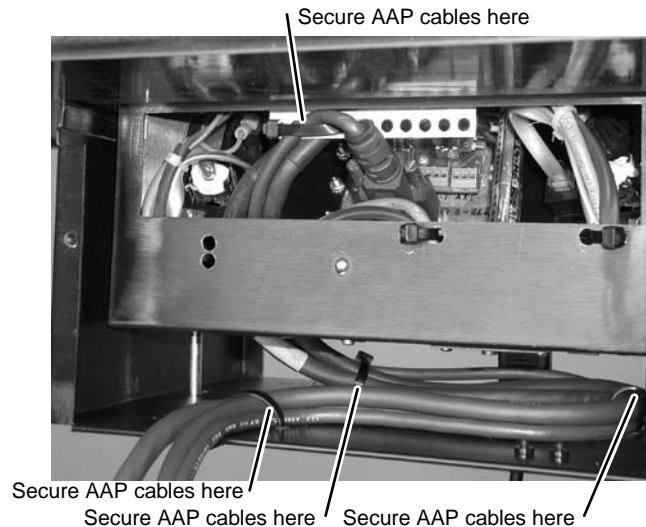

Figure 1-9 — HSA 402 AAP cable routing
2. Experiment with AAP cable positioning to ensure that the cables do not rub against the edges of the AAP cable hole and to ensure that the cable pull does not restrict the movement of the top panel. Figure 1-9 shows the cables routed to the side, which proved effective in tests at Extron.